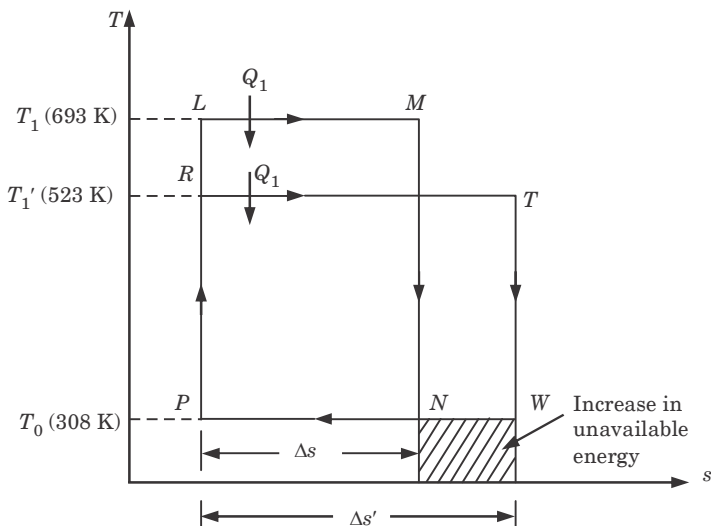

Fig. 7.
1. *LMNP* (Fig. 7) would have been the power cycle, if there was no temperature difference between the vapour condensing and the vapour evaporating, and the area under *NP* would have been the